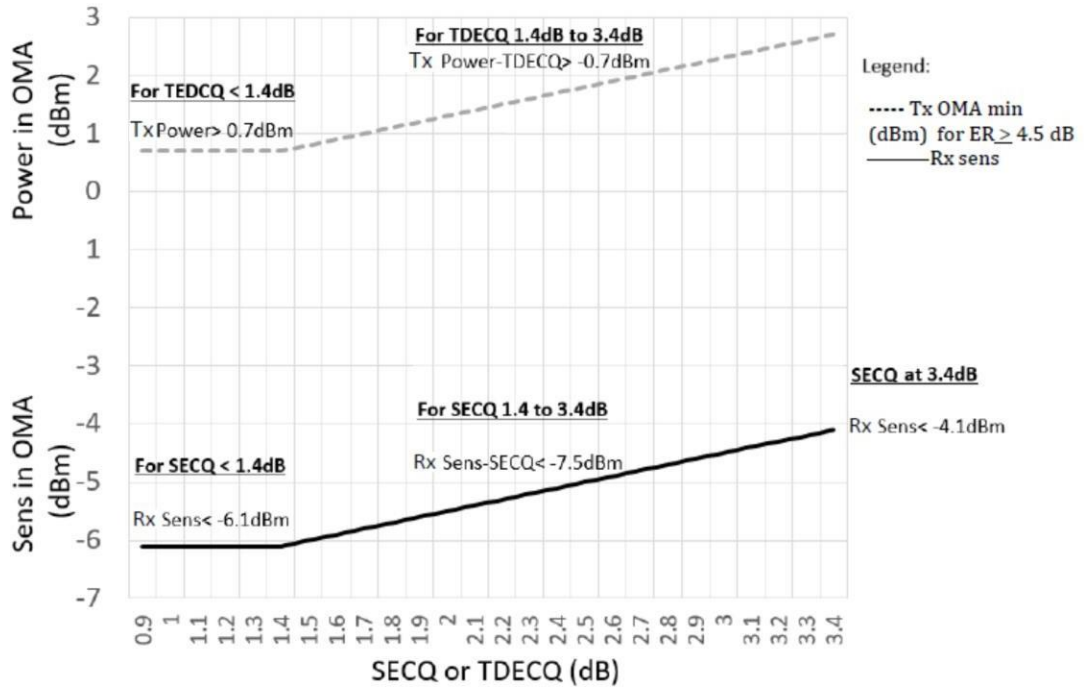

Figure 4. Illustration of Receiver Sensitivity Mask for 100G-LR
6. Receiver sensitivity (OMAouter) (max) is informative and is defined for a transmitter with a value of SECQ up to 3.4 dB. It should meet Equation (1), which is illustrated in Figure 4.